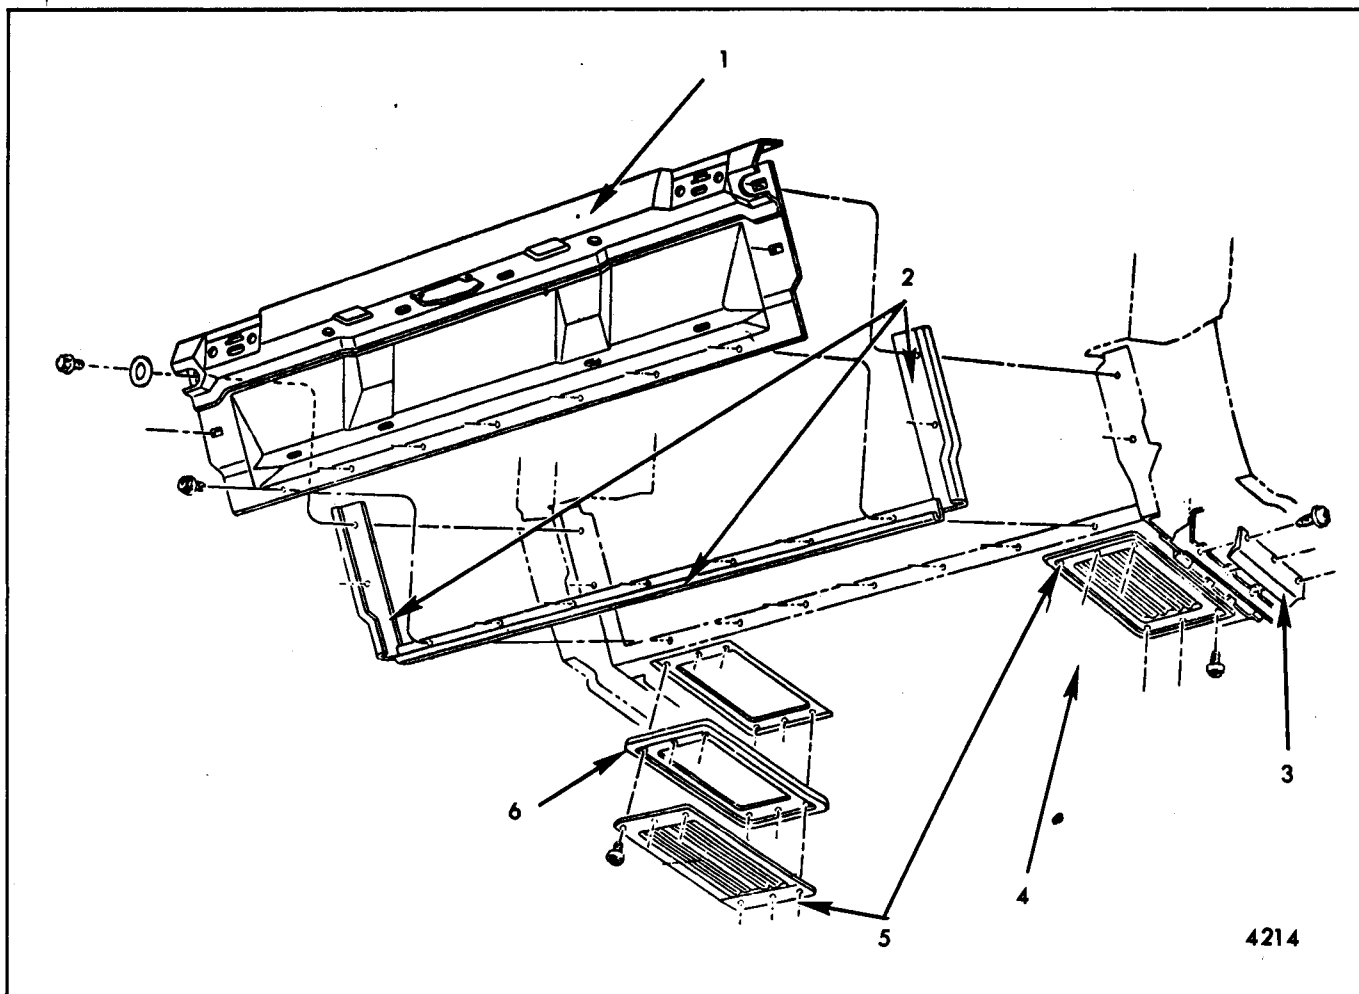

Fig. 9-5-Tail Gate Rear Upper Housing Installation
1. With the tail gate in the closed position, remove back body lower housing access hole covers (Fig. 9-5).
CAUTION: When conducting tail gate service operations through the access openings in the body rear lower housing (Fig. 9-5) place body tape over the tail gate opening key cylinder to prevent inadvertent operation of the tail gate.